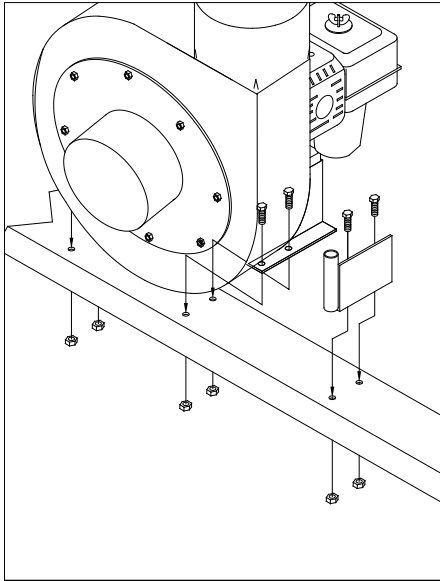

Fig. 7
14. Mount Engine Assembly to Tongue front (4) using 5/16" x 3/4" HHC and lock nuts (4ea.) Bolt Support Arm Bracket (6) as pictured. **Fig. 7**